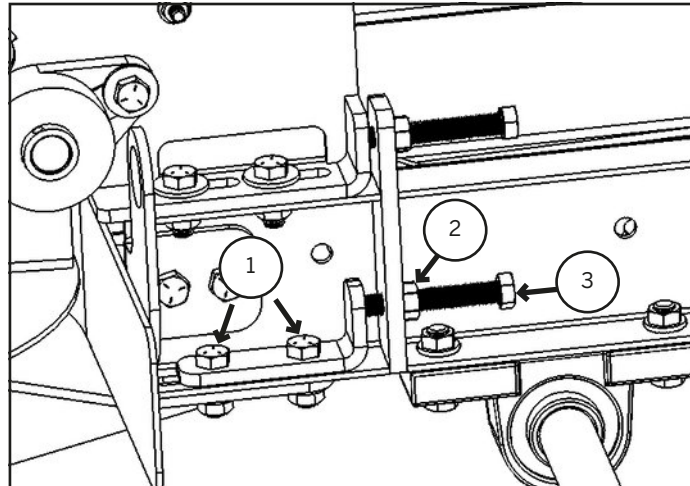

Figure 11.7.2
2. Loosen bolts #1 and #2 on both sides. (Figure 11.7.2)